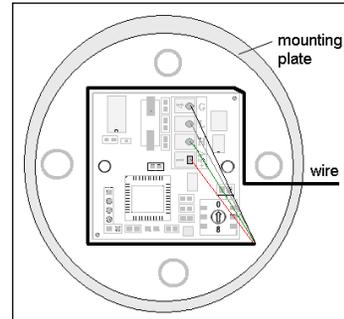

Figure 38: Wire around Sensor Board
6. Route cable around the sensor board as shown in **Figure 38**, and then reassemble the sensor enclosure.